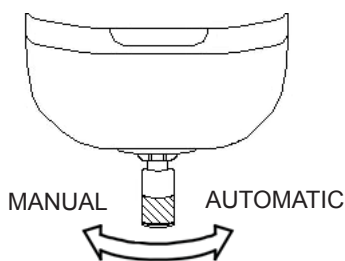
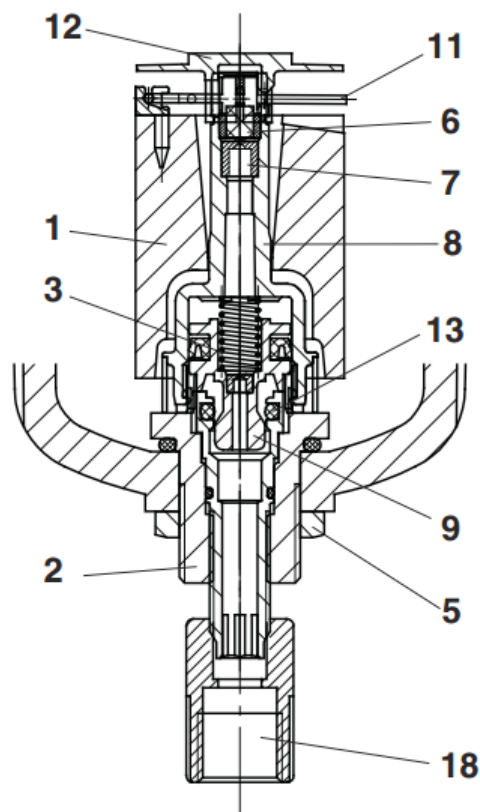

FIGURE 4
FIGURE 5
- Twist the drain stem (No. 18 in Figure 5) to set for AUTOMATIC (Normal) or MANUAL (Test) operation (See Figure 4 below).
**Before first-time use, and after maintenance, the drain stem (See 18 in Figure 5) should be twisted fully clockwise to provide AUTOMATIC operation (See Figure 4).**
#### Method of Operation (See Figure 5)